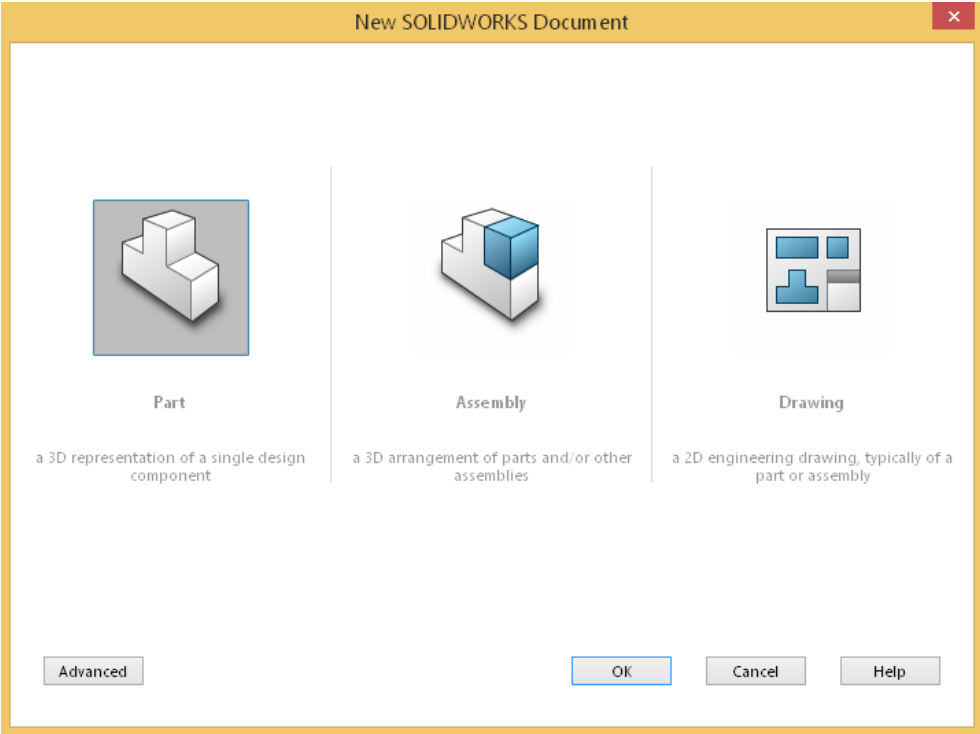

Figure 2-10 The New SOLIDWORKS Document dialog box
1. Select the **New Document** option from **Getting Started** rollout of the **SOLIDWORKS Resources** task pane to start a new part document in SOLIDWORKS 2016; the **New SOLIDWORKS Document** dialog box will be displayed, as shown in Figure 2-10. You can also invoke this dialog box by choosing the **New** button from the Menu Bar.